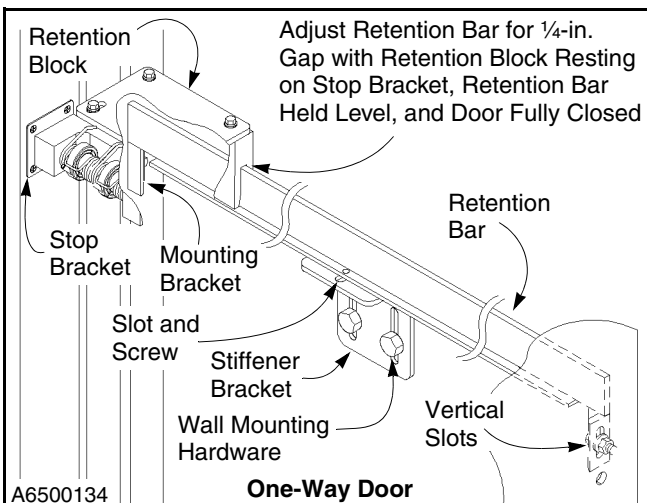

Figure 45
7. Now the retention bar can be adjusted. At the end of the bar and on the stiffener bracket are vertical slotted holes. These slots allow the bar to be adjusted up or down. (See Figure 45.)
8. Loosen the screws attaching the stiffener bracket to the retention bar and loosen the wall mounting hardware. (See Figure 45.)